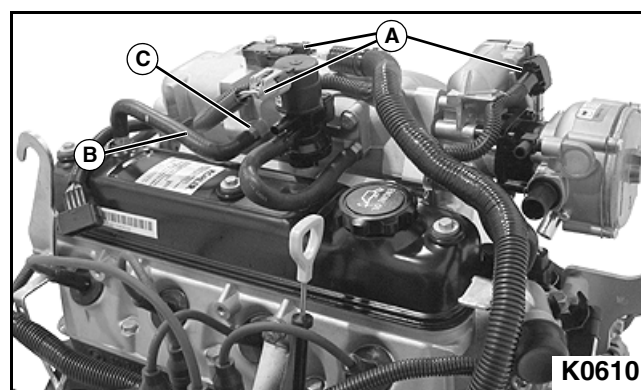

Figure 3-64
1. Disconnect three electrical connectors (A) from intake manifold sensors. **See Figure 3-64.**
2. Disconnect PCV hose (B) from intake manifold port (C). Close all openings.